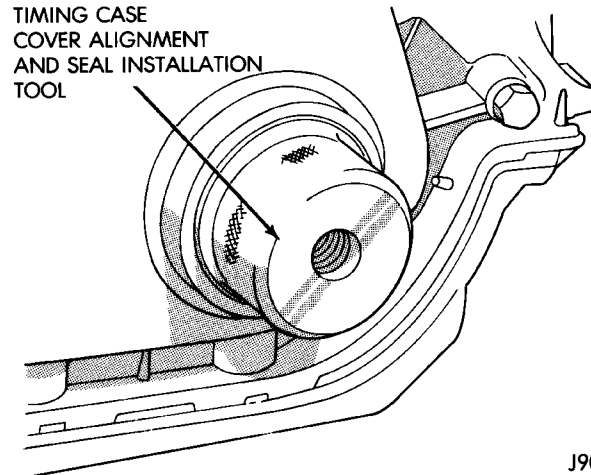

Fig. 41 Timing Case Cover Alignment and Seal Installation Tool 6139
- (4) Insert Timing Case Cover Alignment and Seal Installation Tool 6139 in the crankshaft opening in the cover (Fig. 41).